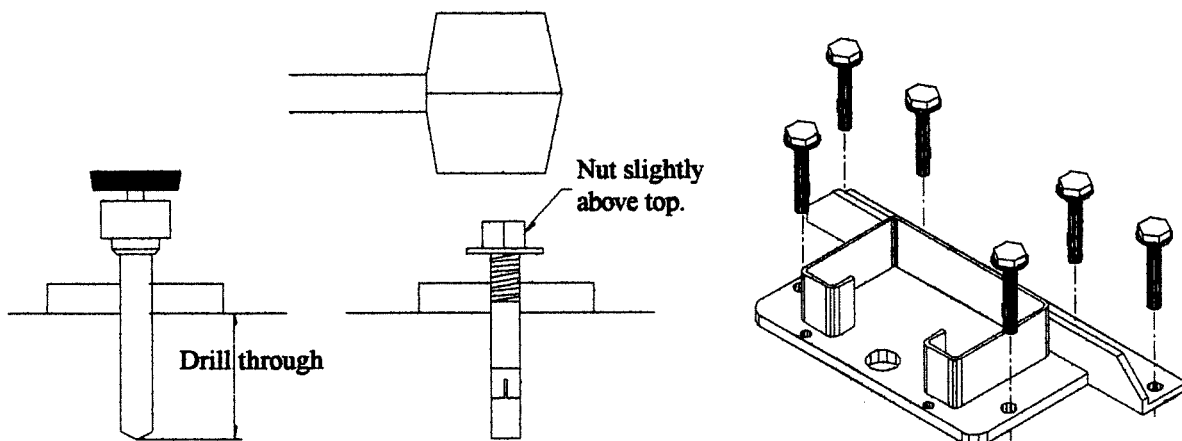

FIGURE 16
10. Assemble the washer and nut onto the anchor bolt. Thread the nut approximately $4/5$'s of the way onto the anchor bolt where the top of the nut is just above the top of the bolt. Using a hammer on the nut, carefully tap the anchor bolt into the concrete. DO NOT DAMAGE THE NUT OR THREADS. Figure 16 on previous page.